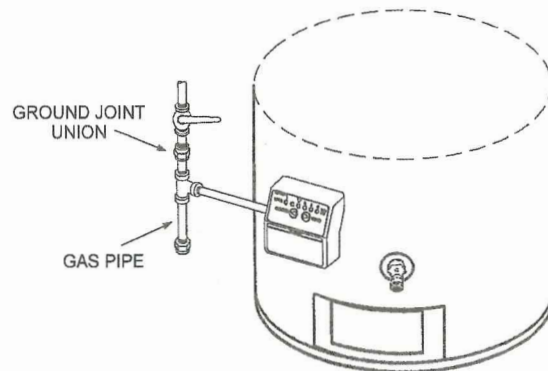

FIGURE 11.
14. Connect gas piping to the Intelli-vent™ Thermostat Control, (184960 Series) and only to the type of gas (i.e. Natural or Liquefied Petroleum/ LP gases, Propane gas) as shown on the rating plate. Use only clean 1/2 inch black iron pipe. (Dirt and scale from the pipe can enter the control and cause it to malfunction). The inlet gas line must have a drip leg (*sediment trap*) installed as close as possible to Intelli-vent™ Thermostat Control, (184960 Series) having a minimum length of three (3) inches (7.6 cm). A ground joint union must be installed in the gas supply line feeding the water heater to permit servicing, of the water heater, see Figure 11. Joints shall be made using approved gas pipe joint compound on the male pipe thread ends. Pipe joint compound must be resistant to the action of Liquefied Petroleum/ LP gases, Propane gas. Do not use Teflon Tape.